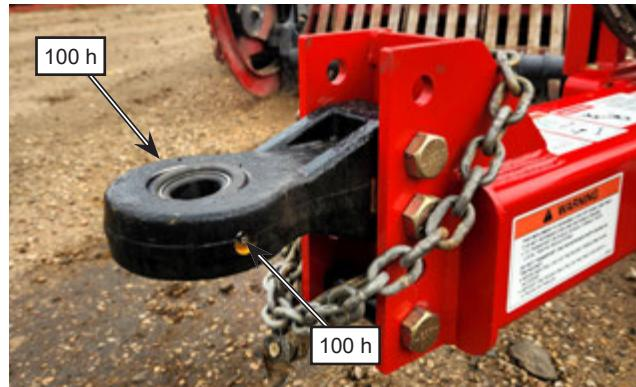

Figure 6.18: Grease hitch tongue
- a. 2 grease points on the sides of the hitch; see *Figure 6.18*.